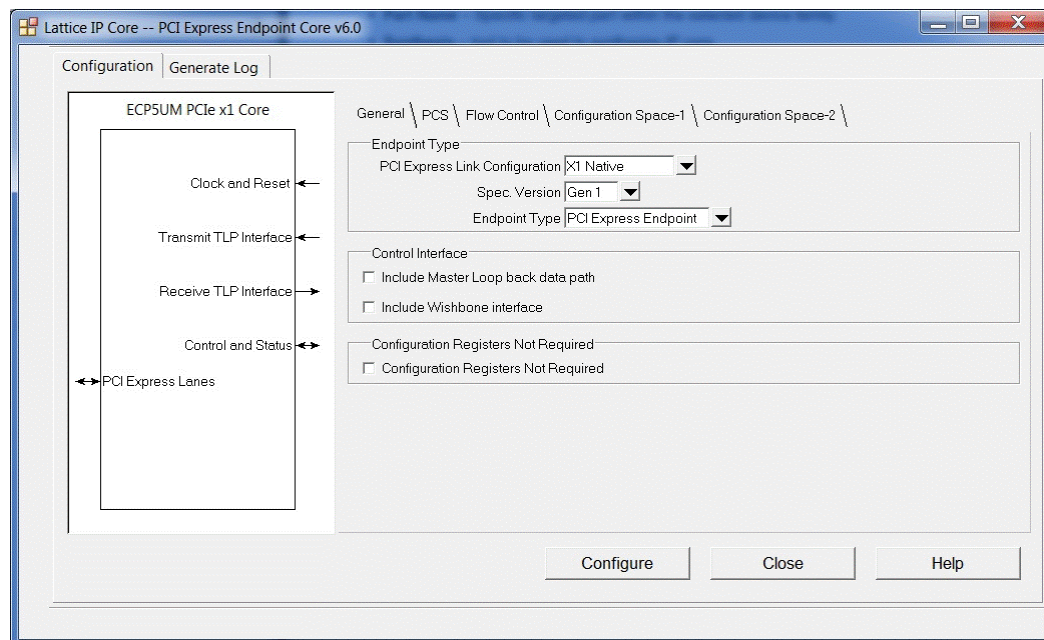

Figure 4.6. PCI Express Endpoint IP Core Configuration GUI
1. Click the **Customize** button in the Clarity Designer tool dialog box to display the PCI Express IP core configuration GUI, as shown in Figure 4.6.